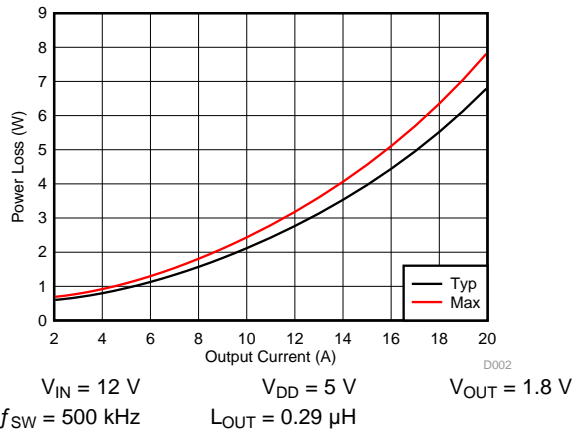
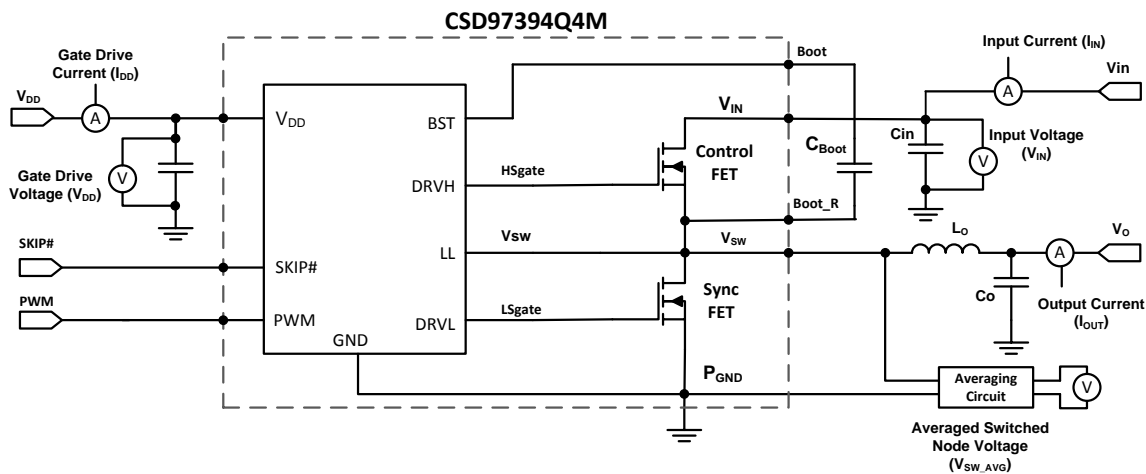

Figure 4. Power Loss vs Output Current
Figure 15. Power Loss Test Circuit
MOSFET centric parameters such as $R_{DS(ON)}$ and Q_{gd} are primarily needed by engineers to estimate the loss generated by the devices. In an effort to simplify the design process for engineers, Texas Instruments has provided measured power loss performance curves. Figure 4 plots the power loss of the CSD97394Q4M as a function of load current. This curve is measured by configuring and running the CSD97394Q4M as it would be in the final application (see Figure 15). The measured power loss is the CSD97394Q4M device power loss which consists of both input conversion loss and gate drive loss. Equation 1 is used to generate the power loss curve.
The power loss curve in Figure 4 is measured at the maximum recommended junction temperature of $T_J = 125^\circ\text{C}$ under isothermal test conditions.
- Typical Power Loss at 10 A = 2.1 W (Figure 4)